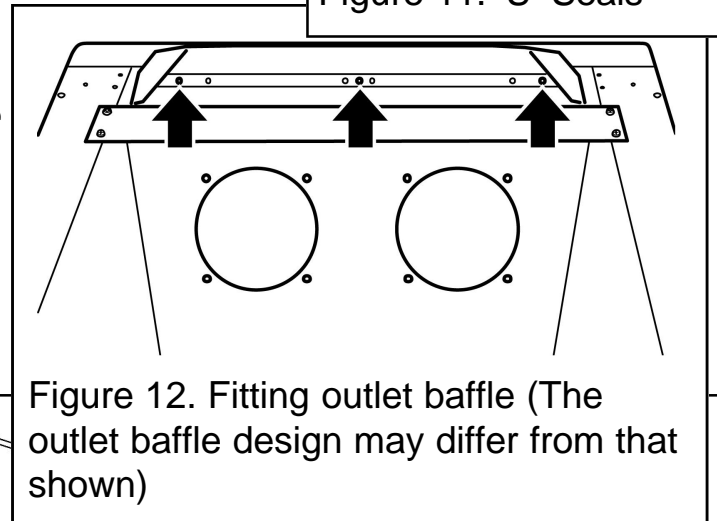

Figure 12. Fitting outlet baffle (The outlet baffle design may differ from that shown)
5. The 'Adorn', 'Visage', 'Eternal', 'Decadent', "Obsession" and 'Dream' models have an outlet baffle supplied with the appliance fascia. Fit this to the convected air outlet of the appliance using the three self tapping screws supplied with the fascia (See figure 12).
The 'Icon' model has a heat baffle supplied with the appliance fascia. Fit this to the convected air outlet of the appliance using the three self tapping screws supplied with the fascia (See figure 12).